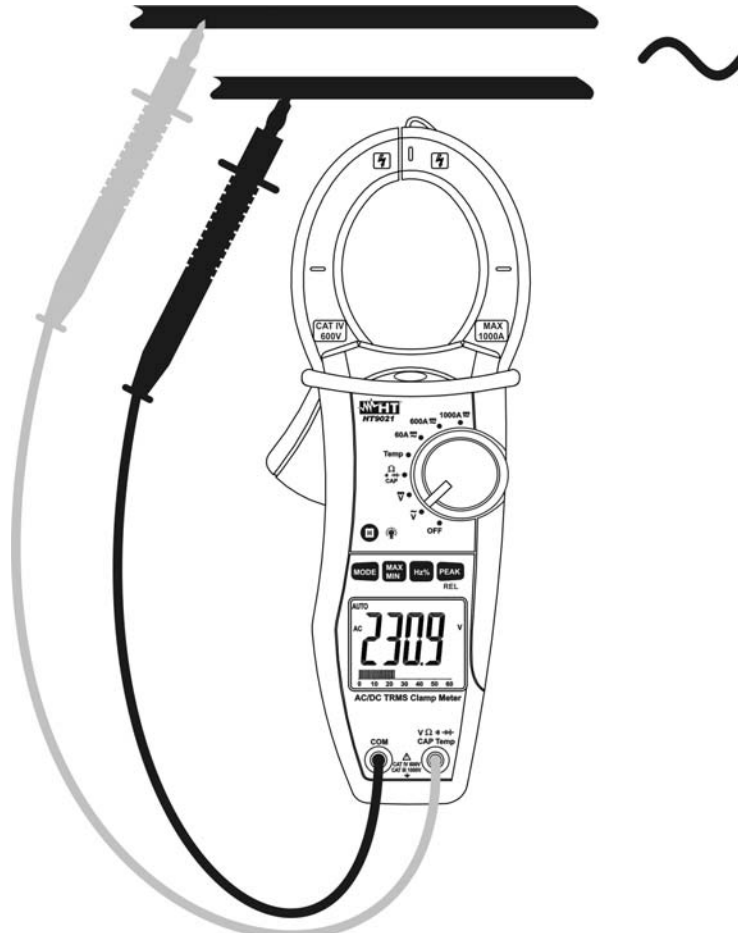

Fig. 3: Taking AC voltage measurements
3. Insert the red test lead plug into $V\Omega$ jack and the black test lead plug into **COM** jack (Fig. 3)